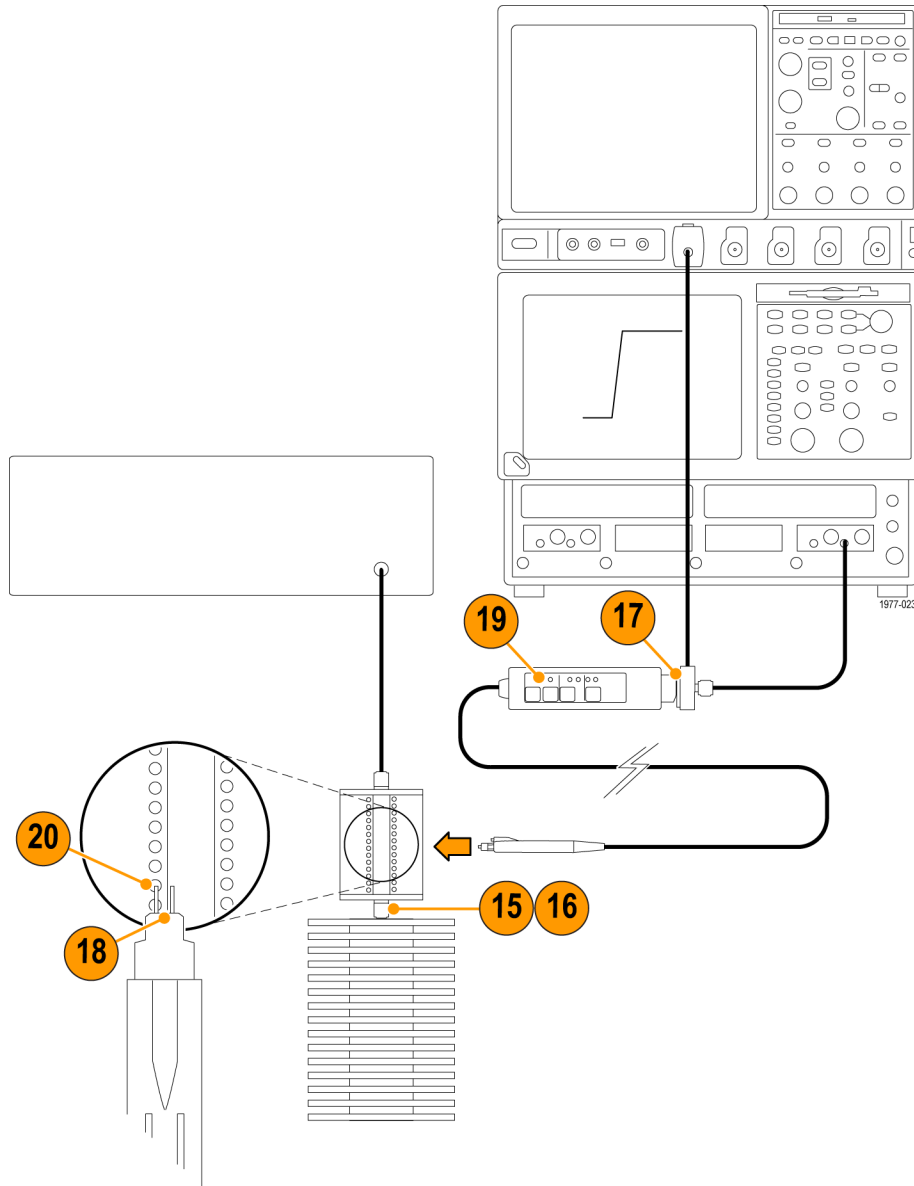

Figure 20: Probe rise time setup (42 V range)
20. Touch the probe tips to the DM pads on the probe calibration adapter and measure the rise time. (See Figure 20 on page 33.) Record the measured rise time of the system and probe as t_{s+p} . This measurement at the 42 V range is typically about 400 ps.